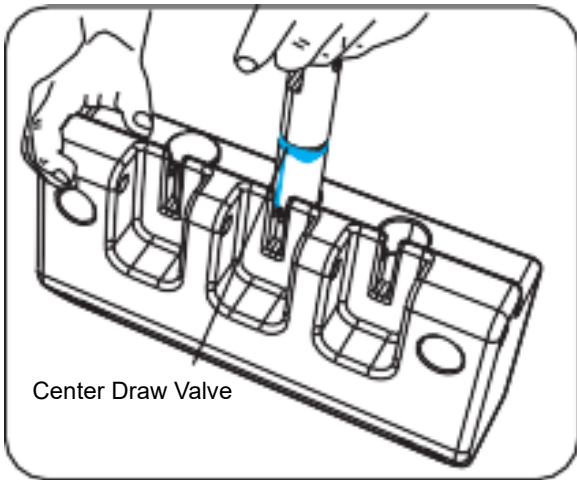

Figure 25
- ✘ When reassembling, the Center draw valve should be placed as shown in Figure 25.